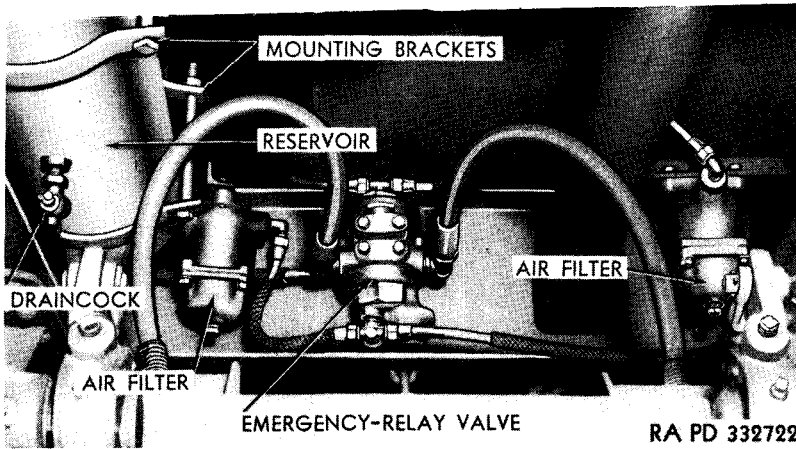

Figure 33—Reservoir and Drain Cock
c. Reservoir (fig. 33).
d. Drain Cock (fig. 33).